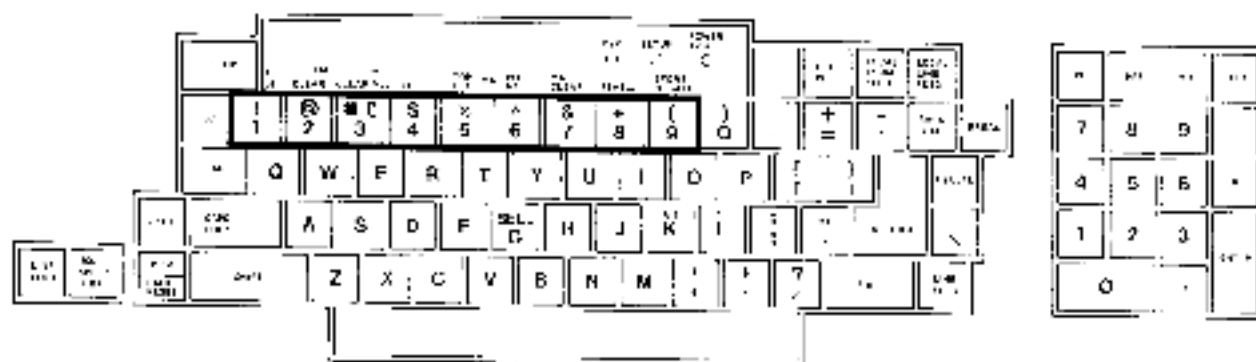

Figure 4-5 SET UP Mode Keys
4.3.2.2 SET-UP Mode Keys – Figure 4-5 shows the SET UP mode keys on the keyboards. Most of these keys are used to set up forms before using the terminal in a specific application. In addition, many other keys on the keyboards perform special functions in SET UP mode. Refer to Table 4-1 for a complete list of SET-UP commands. Table 4-3 lists and describes the set-up mode keys.
Table 4-3 SET-UP Mode Keys (Figure 4-5)
Table 4-3 SET-UP Mode Keys (Figure 4-5) (Cont)